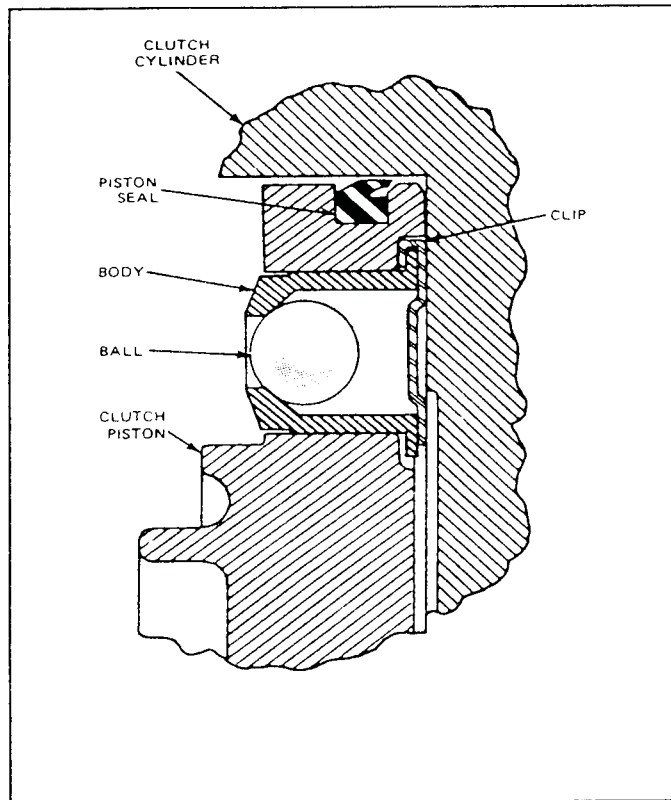

FIG. 29 Clutch Piston Check Ball
6. The clutch piston has a check ball similar to Fig. 29. Inspect the check ball for freedom of movement and proper seating.
2. Check the fluid passage in the clutch cylinder for obstructions. Clean out all fluid passages. Inspect the clutch piston for scores and replace if necessary. Inspect the piston check ball for freedom of movement and proper seating (Fig. 29). AOD—Check both check balls in the forward clutch cylinder for freedom of motion.
2. Check the fluid passage in the clutch cylinder for obstructions. Clean out all fluid passages. Inspect the clutch piston for scores and replace if necessary. Inspect the piston check ball for freedom of movement and proper seating (Fig. 29). Perform the Direct Clutch Piston Check Ball Leakage procedure.